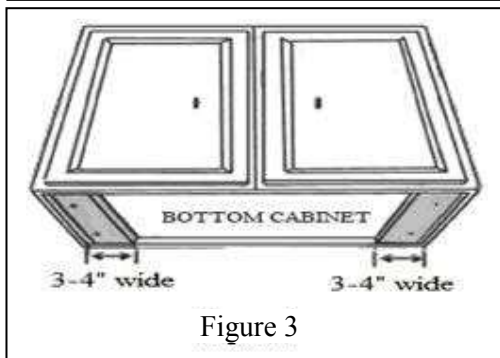

Figure 3
- For installing under the cabinet with recessed bottom, attach 4-inch wide wood filler strips (not provided) on each side. Refer to below figure 3